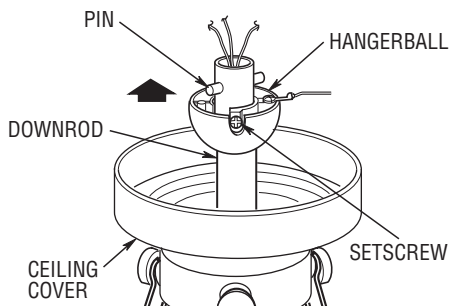

Figure 13
- 15. Place the ceiling cover over the downrod. Then reinstall the hanger ball (Figure 13) on the downrod as follows. Route the three 80" motor leads through the hanger ball and slide the hanger ball over the downrod. Position the pin through the two holes in the downrod and align the hanger ball so the pin is captured in the groove in the top of the hanger ball. Pull the hanger ball up tight against the pin and securely tighten the setscrew in the hanger ball. A loose setscrew could create fan wobble.